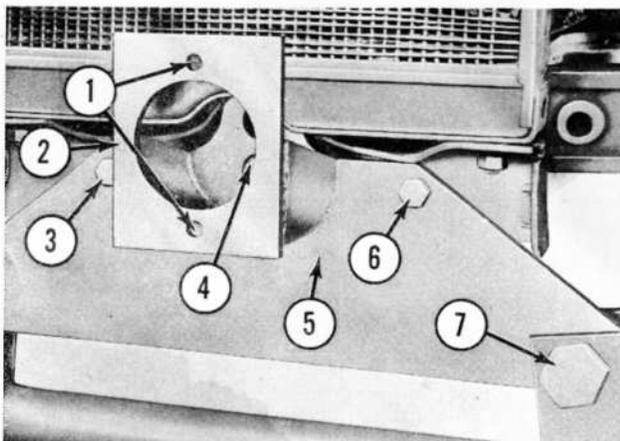

Figure 25
11. Position the front mounting plate (5), Figure 25, on the axle support assembly as shown and secure with one $\frac{5}{8}$ " x $1\frac{1}{2}$ " hex head bolt (4), and lockwasher.
12. Using the mounting plate as a template, drill two $\frac{1}{2}$ " holes in the axle support at (3) and (6), Figure 25, and secure the mounting plate to the tractor with two $\frac{1}{2}$ " x $1\frac{3}{8}$ " hex head bolts (3) and (6), flat washers and hex nuts.
To install the pump on the mounting plate use the holes shown at (1), Figure 25.
2. Secure the front of the loader to each side of the tractor mounting plate, as shown at (7), Figure 25, with two $1" \times 4\frac{1}{4}"$ hex head bolts and $1"-8$ hex locknuts.